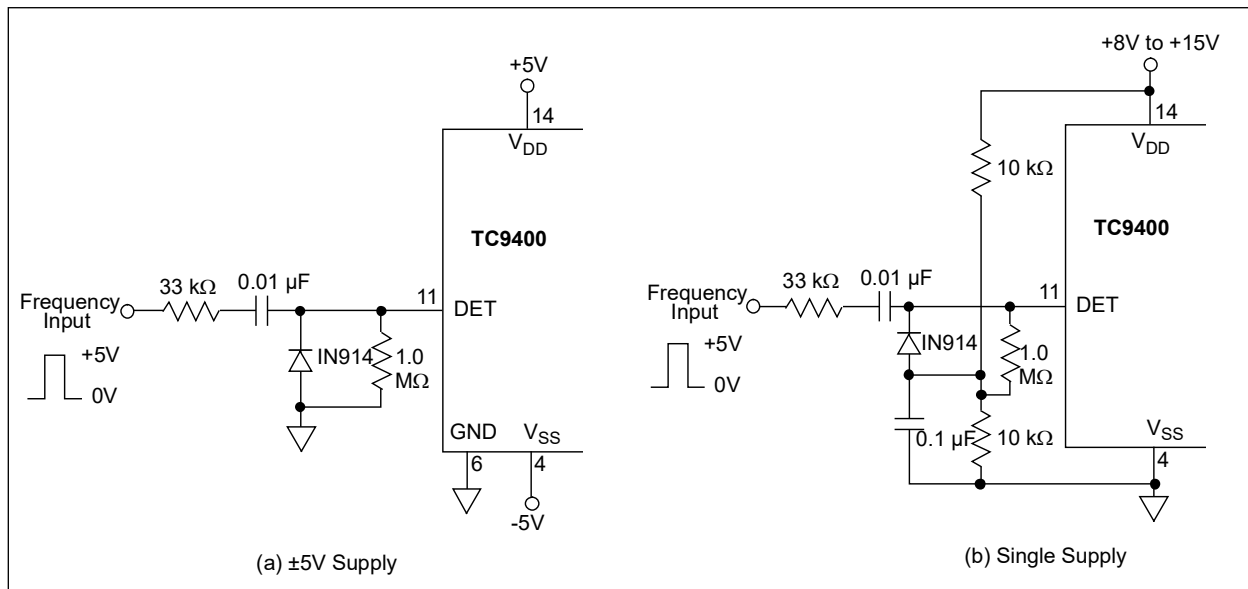

FIGURE 6-1: Frequency Input Level Shifter.
In $\pm 5\text{V}$ applications, the input voltage levels for the TC9400 are $\pm 400 \text{ mV}$, minimum. If the frequency source being measured is unipolar, such as TTL or CMOS operating from a +5V source, then an AC coupled level shifter should be used. One such circuit is shown in Figure 6-1(a).
The level shifter circuit in Figure 6-1(b) can be used in single supply F/V applications. The resistor divider ensures that the input threshold will track the supply voltages. The diode clamp prevents the input from going far enough in the negative direction to turn on the start-up comparator. The diode's forward voltage decreases by 2.1 mV/ $^{\circ}\text{C}$, so for high ambient temperature operation, two diodes in series are recommended.
1. Corrected Figure 6-1.